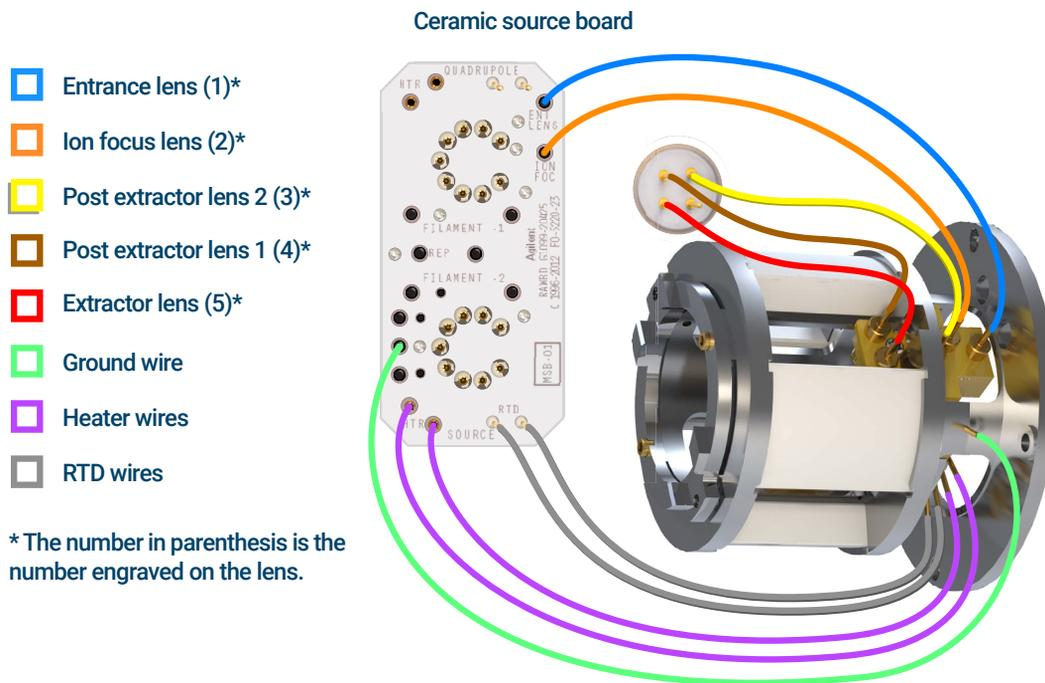

Figure 71 Wiring between the ceramic source board/feedthrough connector and the EI HES radiator
- 1 Use tweezers or needle nose pliers to connect/disconnect the green ground wire and the 5 lens wires from the radiator. Do not bend the wires any more than necessary. (See Figure 71.)